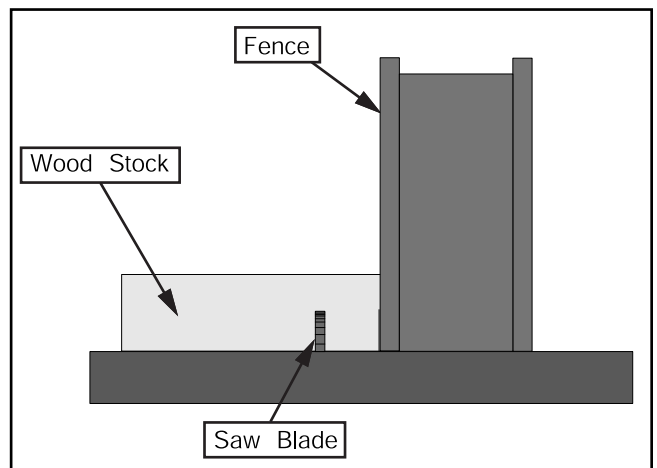

Figure 56. Rabbet cutting.
3. If the rabbet runs the length of the material, adjust the fence so the blade is aligned with the inside of your rabbet channel as shown in **Figure 56**.